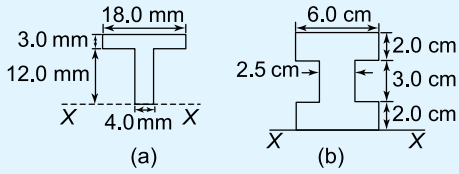

Figure 9.24
- For the sections shown in Figure 9.24, find the second moment of area and the radius of gyration about axis XX .